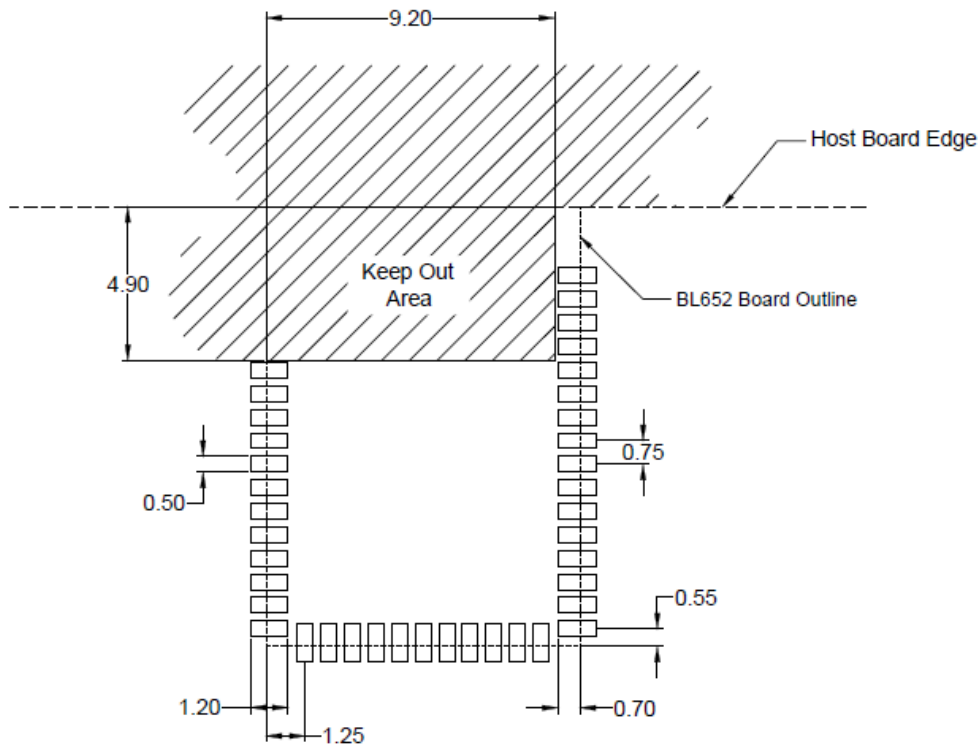

Figure 12: Land pattern and Keep-out for BL652-SA
- Note 3** BL652 development board has BL652-SA placed on the edge of the PCB board (and not in corner) for that the Antenna keep out area is extended down to the corner of the development board, see section *PCB Layout on Host PCB for BL652-SA*, Figure 12. This was used for module development and antenna performance evaluation.